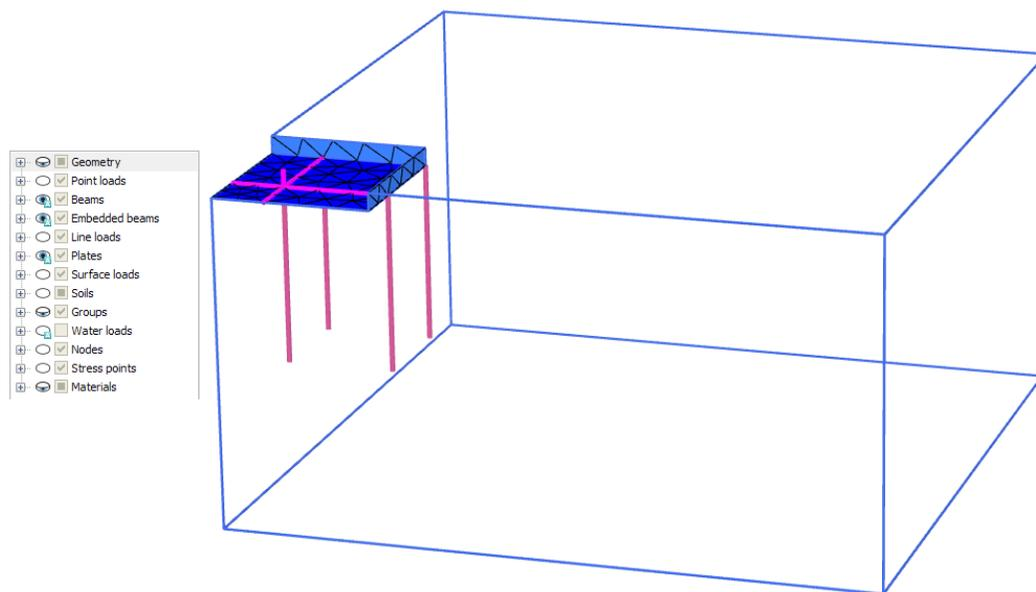

Figure 26: Partial geometry of the model in the Output
4. Click the eye button  in front of the **Soil** subtree in the **Model explorer** to hide the soil. The embedded beams can be seen in Figure 26 (on page 39):